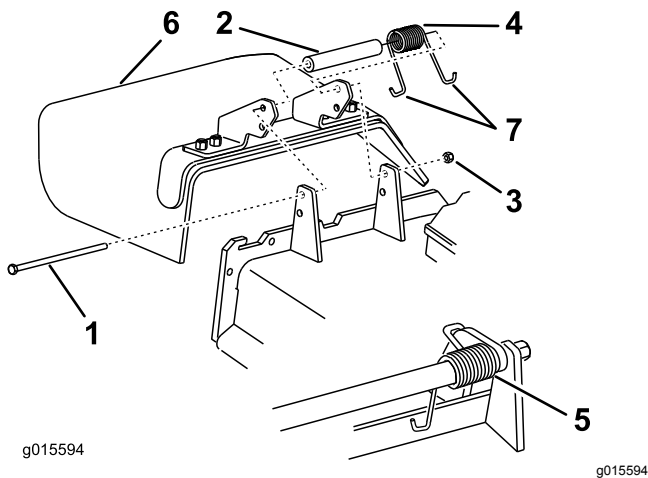

Figure 86
1. Remove the locknut, bolt, spring, and spacer holding the deflector to the pivot brackets (Figure 86).
Note: Make sure that 1 J-hook end of spring is installed behind deck edge before installing the bolt as shown in Figure 86.
6. Place 1 J-hook end of the spring around the grass deflector (Figure 86).